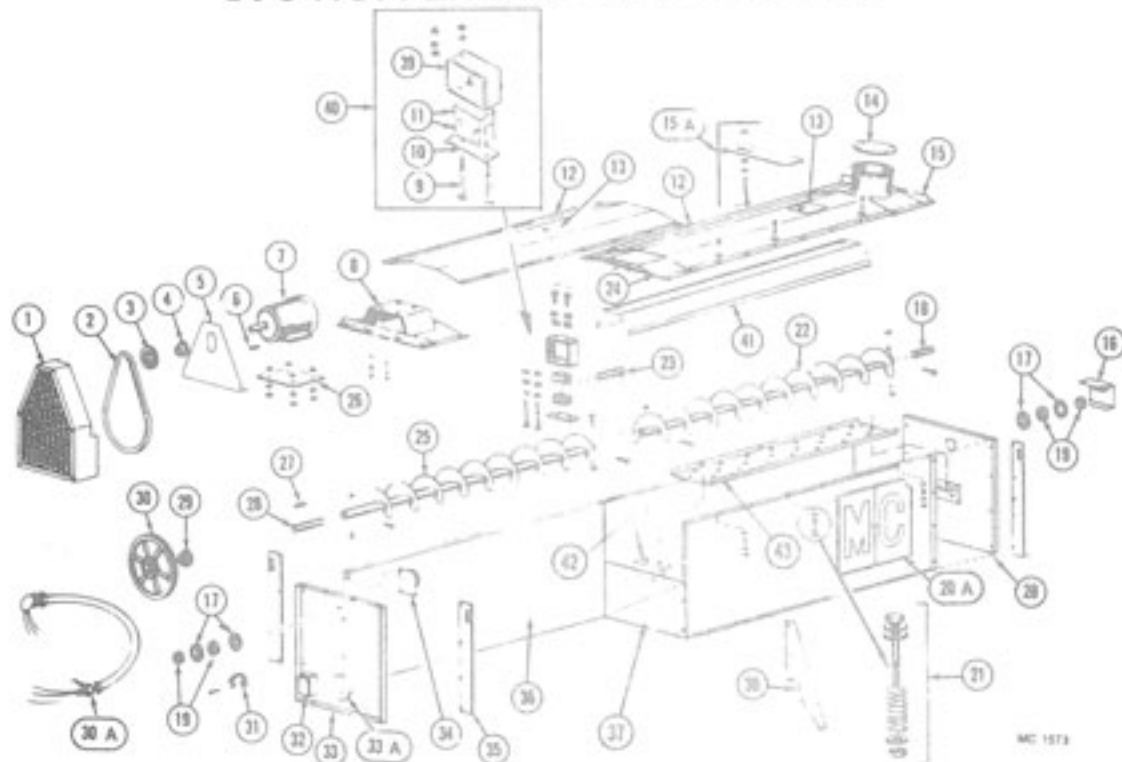

Figure 1A - Model 570 Hopper and Level Auger
1. Bolt the hopper sides and end panels together with  $\frac{3}{8}$ -16 x  $\frac{3}{4}$ " (9.5 x 19mm) hex capscrews and flanged locknuts. Place the hopper sectional panel between the hopper side panels. Be sure to bolt (1) auger pan support bracket to the rear hopper end panel and (1) to the sectional panel. These brackets will support the slotted pan under the rear level auger section. Use  $\frac{3}{8}$ " x  $\frac{3}{4}$ " capscrews where bracket is bolted to end and sectional panels and  $\frac{3}{8}$ " x  $\frac{3}{4}$ " round truss head screws where pan is bolted to support brackets (round head towards auger). Install (1) #1293412 Lifting Bar at each corner of the hopper.
2. Bolt level auger bearing assembly to level auger bearing support bracket and then to the level auger support. Do not forget to place the auger cover between the level auger support and the level auger bearing support bracket. See Figures 1A and 4. **DO NOT** put pressure on the wood bearings by over tightening the  $\frac{3}{8}$ -16 x  $3\frac{3}{4}$ " bearing bolts.